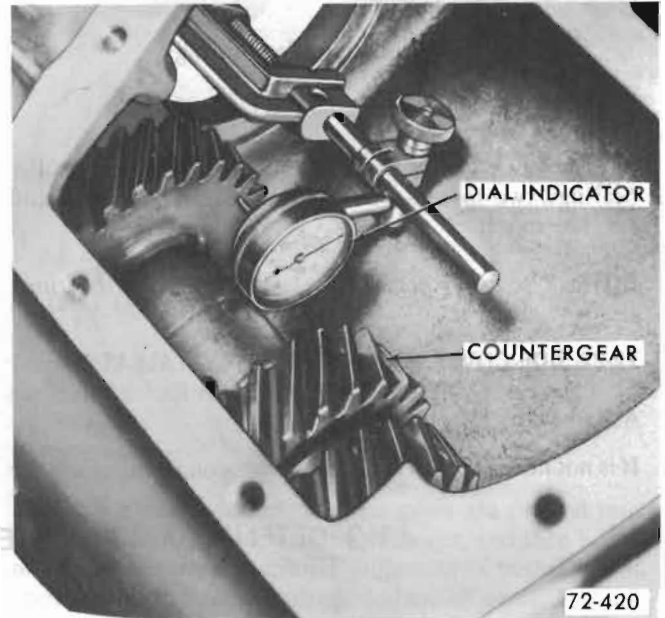

Figure 72-57 - Checking Countergear Alignment
5. Attach a dial indicator as shown in Figure 72-57 and check end play of countergear. If end play is greater than .025" new thrust washers must be installed.